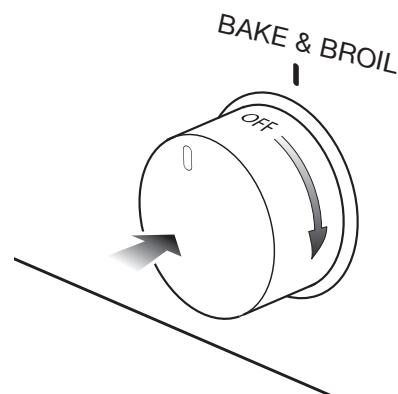

Fig. 3.4
2. Press the oven control knob right down (the ignitors will start ‘clicking’) turn the knob clockwise (fig. 3.4) to the “**BROIL**” position.